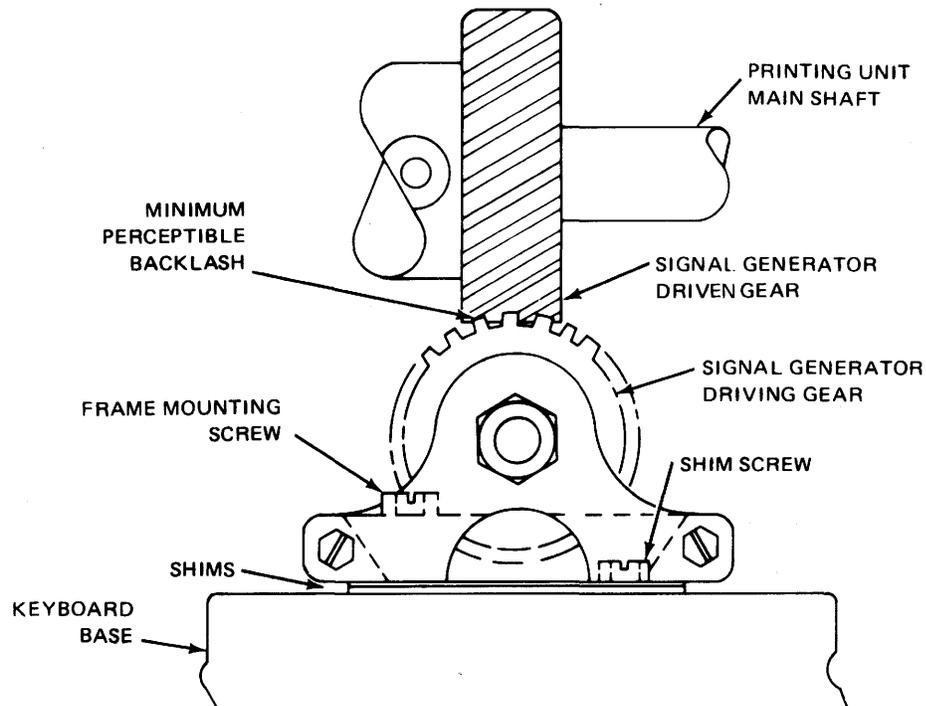

Figure 6-13. Signal Generator Frame.
6-17. Keyboard Signal Generator Gear Clearance Adjustment. To adjust the keyboard signal generator gear clearance, see figure 6-13, and proceed as follows:
- a. Remove signal generator frame rear-mounting screws (see figure 6-13).